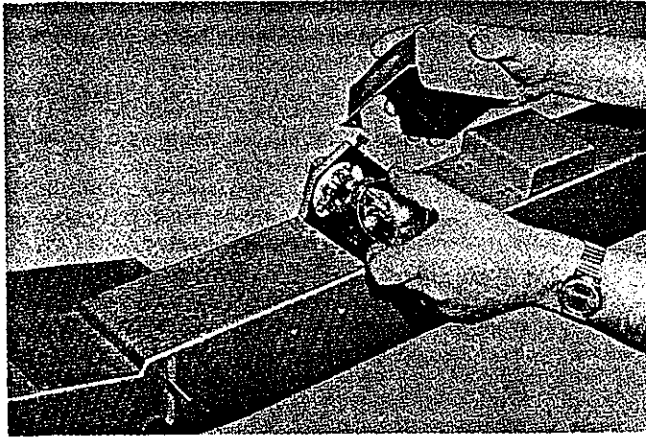
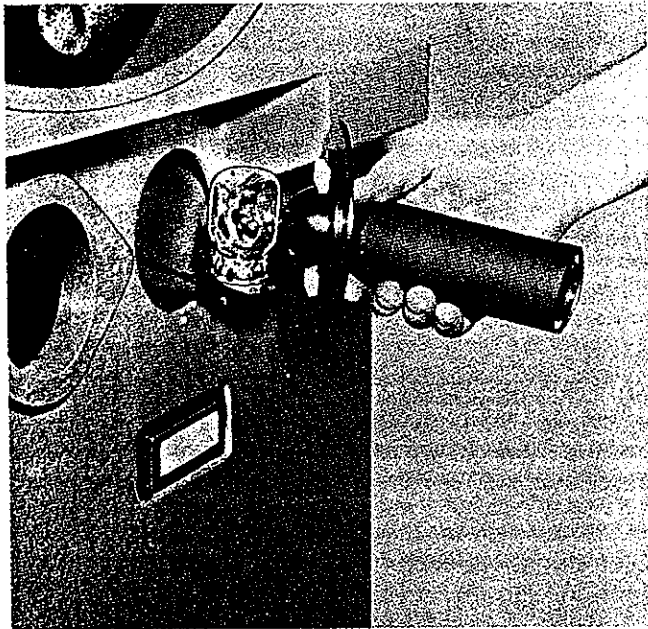

Figure 6
Figure 7
2. Remove access panel, located on the rear of the profile lamphouse, for access to the profile lamp. (Figure 6.) Remove surface illuminators for access to the surface illuminator lamps. (Figure 7).
For Figures 6 and 7, see page 12.